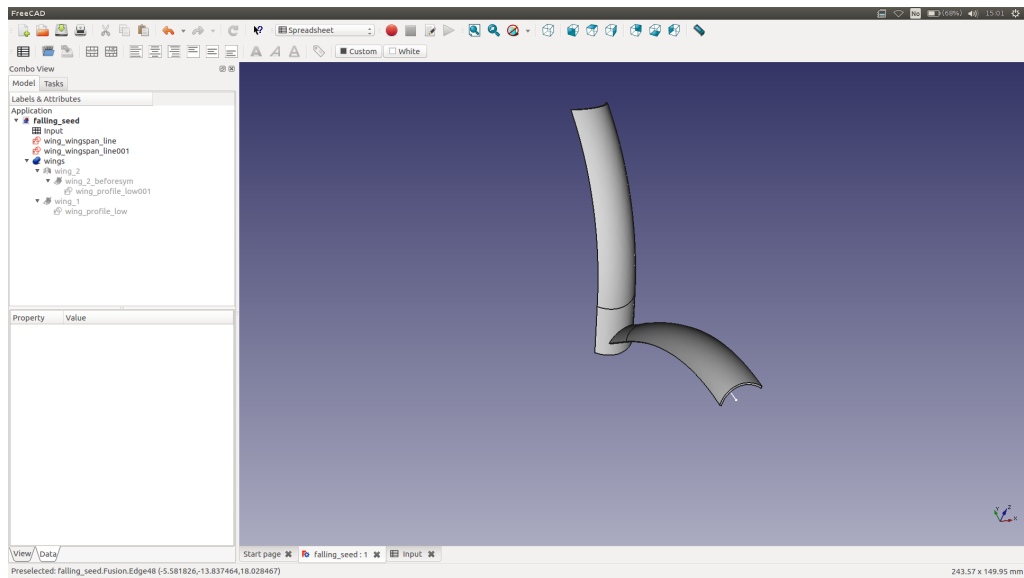

Figure 7
- An additional way to break the symmetry in the seed geometry is to add a position offset on the wings. Create two additional fields in the spreadsheet, **wings\_position\_long\_shift** and **wings\_position\_radial\_shift** under a **Wings positioning** title. Use them to change the **Placement** field (in the **Data** tab) of both **wing\_1** and **wing\_2**. The longitudinal field can be used to shift position in the X direction, the radial shift in the Y direction. Put opposite signs between the wings, otherwise you will not break the symmetry but only translate the wings. Put small values (typically 2.2 and 0.5 mm for example). (**Tips:** for being able to set a translation of the position of an object, select the object, go to the **Data** tab, and expand the **Placement > Position** menu. You can then enter formula as usual). Your pair of wings should now look like Fig. 7.